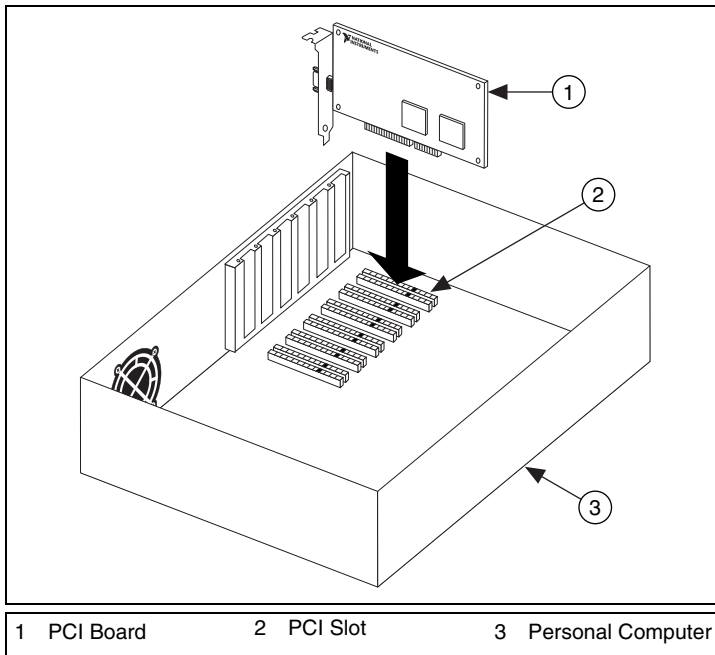

Figure 16. Installing Your PCI Card
5. Insert the GPIB board into the slot with the GPIB connector sticking out of the opening on the back panel, as shown in Figure 16. It might be a tight fit, but do not force the board into place.